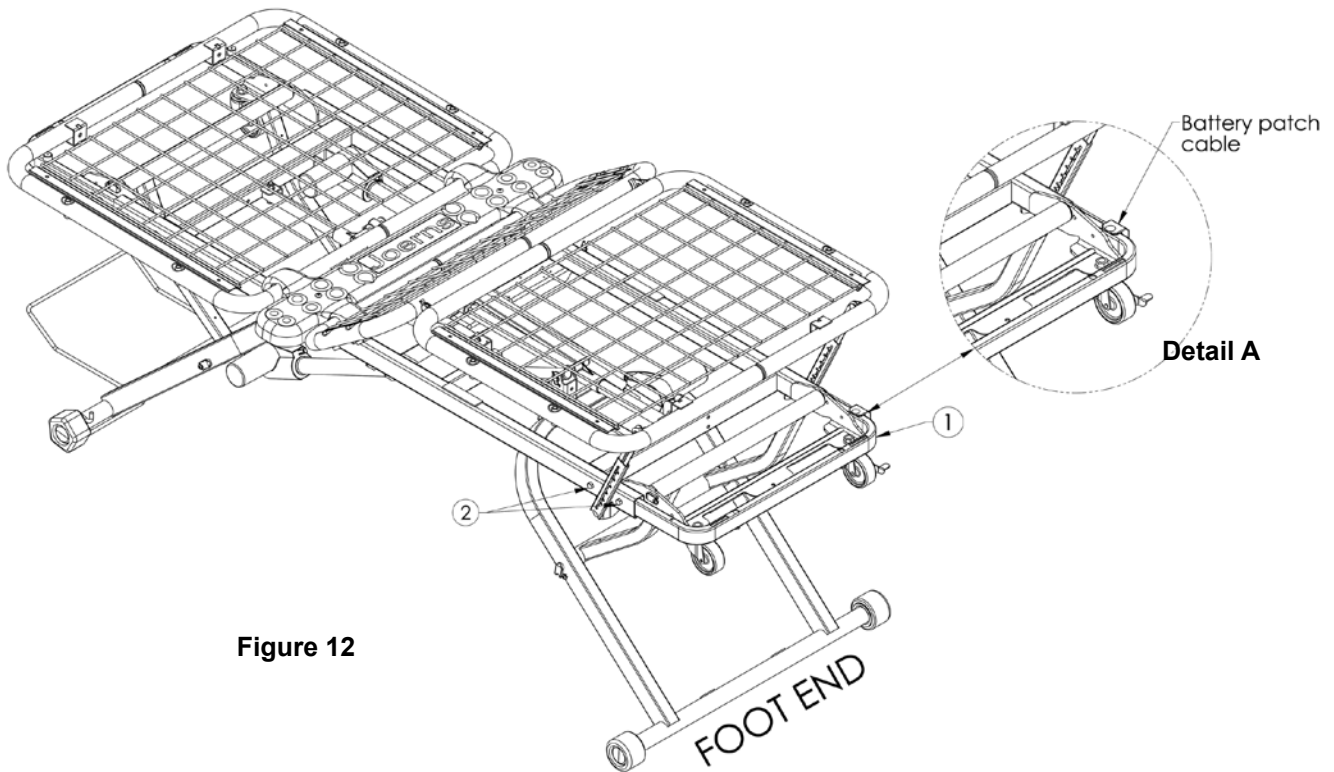

Figure 12
1. Raise the bed to a comfortable working height and raise the Foot Section (Figure 12)